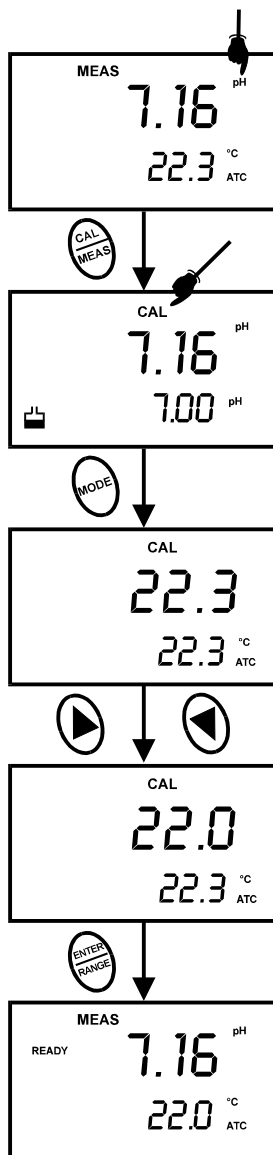

Figure 11 - Temperature Calibration in pH mode.
7. Once you have selected the correct temperature press the **ENTER** key. The meter automatically returns to pH measurement mode. See Figure 11.